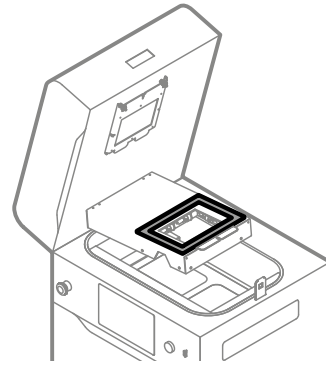

Fig. 12.49 Location of the reflector sealing.
10. The reflector sealing is located in the heating module (fig. 12.49). Check its condition for any damage, deformation or tearing. If needed, replace it.